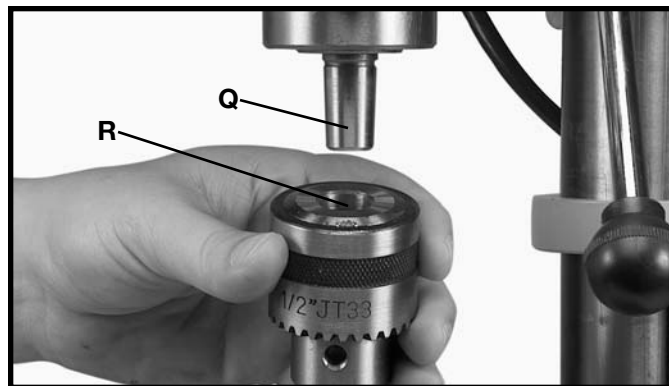

Fig. 17
13. **IMPORTANT:** Make certain the spindle taper (Q) Fig. 17, and tapered hole in chuck (R) are clean and free of any grease, lacquer or rust preventive coatings. **NOTE:** Household oven cleaner can effectively remove any substance from the spindle and chuck; however, carefully follow the manufacturer's safety rules concerning its use.